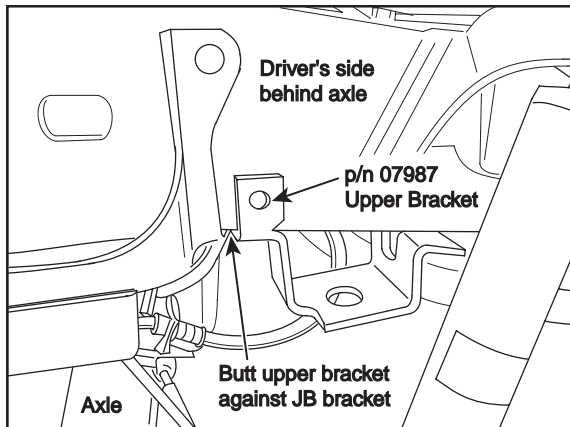

Figure 2
4. Using the two holes in the bracket as a template, drill (2) two  $\frac{3}{8}$ " holes for each bracket into the side and bottom of the frame as shown (Figure 2).